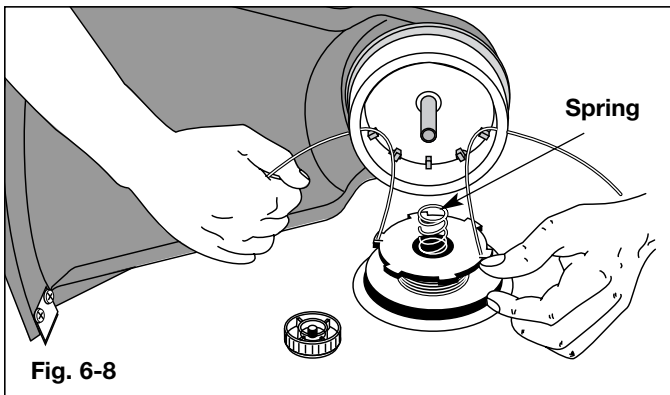

Fig. 6-8
13. Insert the ends of the line through the eyelets in the outer spool and place inner reel with spring inside the outer spool (Fig. 6-8). Push the inner reel and outer spool together. While holding the inner reel and outer spool, grasp the ends and pull firmly to release the line from the holding slots in the reel.
5. Insert the ends of the line through the eyelets in the outer spool (Fig. 6-8).